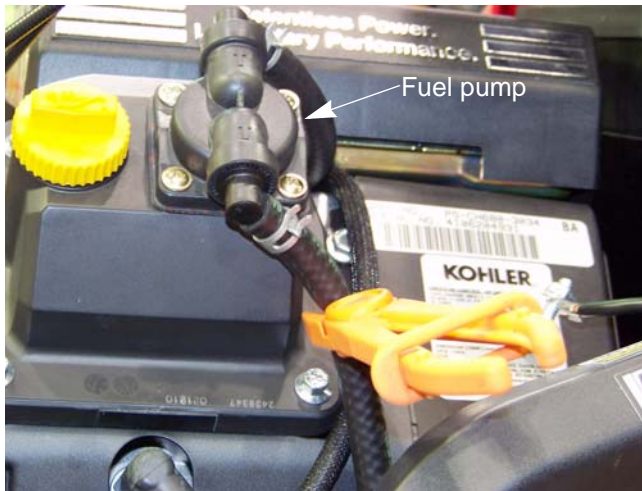

Figure 2.20
4. Clamp off the fuel line just below the fuel pump. See Figure 2.20.